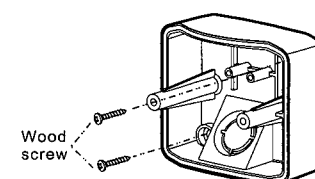

FIG. 4
- Fasten the sensor base rigidly to the selected mounting surface (wall or ceiling) with the cable entry hold facing downwards (See FIG 4).